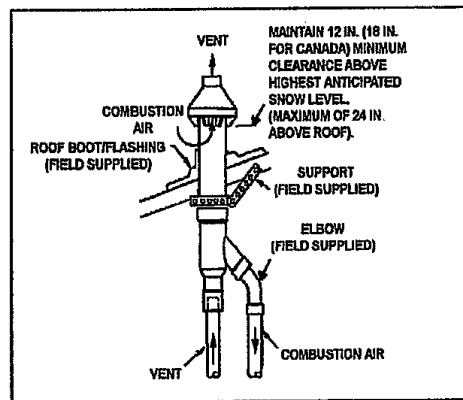

Figure 5.
5. Secure assembly to roof structure as shown in Figure 5 using field supplied metal strapping or equivalent support material.
7. Cement heater combustion-air and vent pipes to concentric vent termination assembly. See Figure 5 for proper pipe attachment.